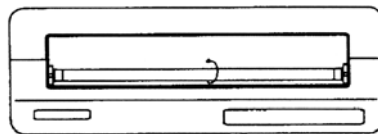

figure 7
3. Rotate the UV Lamp one-quarter turn, top-to-rear, (figure 7) and remove lamp.